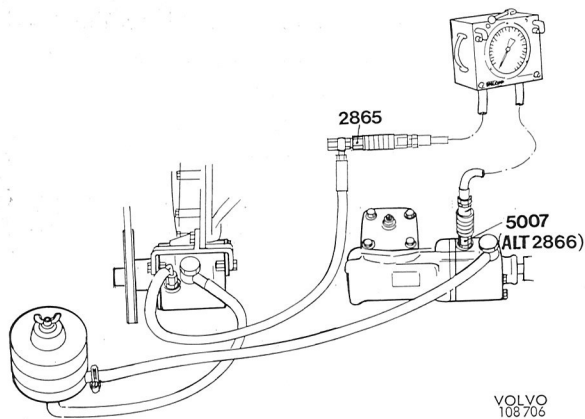

Fig. 6-69. Pressure gauge connected
1. Connect the test instrument 2864 to the delivery line at the steering housing, see Fig. 6-69. The inlet hose of the instrument is connected to the banjo nipple with tool 2865 (Fig. 6-69) and the